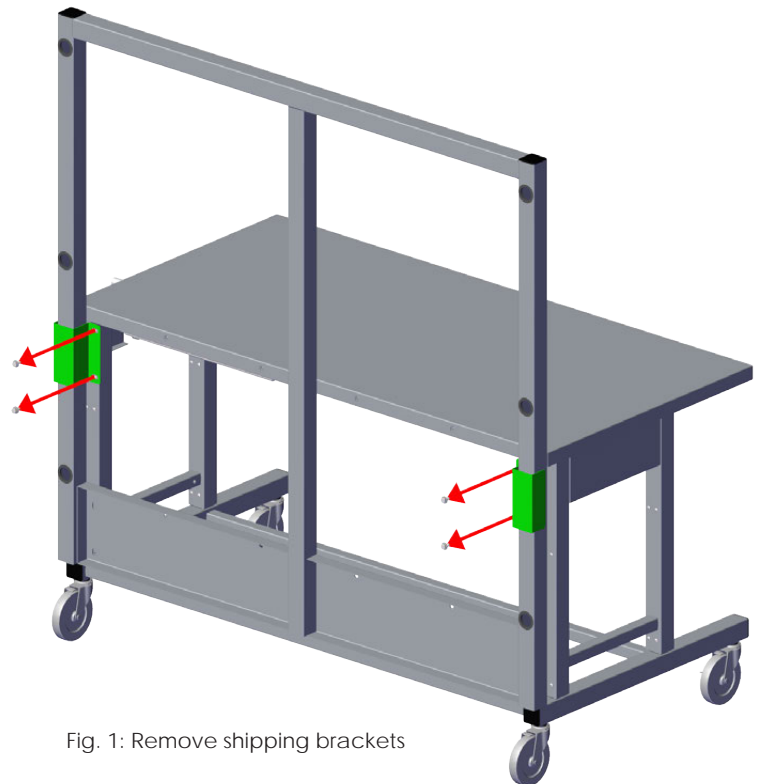

Fig. 1: Remove shipping brackets
1. To raise the back frame to its operational position, remove the four hex bolts and washers that hold the back frame in its shipping position (Fig. 1).
2. Remove the the two shipping brackets (Fig. 1). (shown in green). Save these in case the Prep and Pack Table is moved to another location.